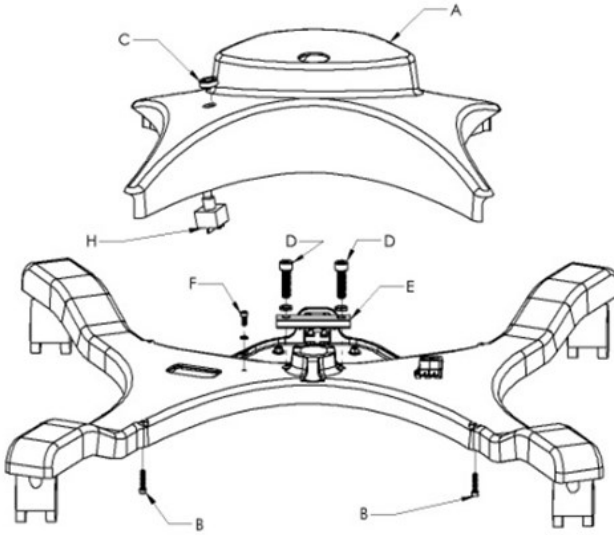

Figure 3: Stand assembly.
3. Remove the electrical switch nut (C) by unthreading it from the push button switch (H). Place it aside. Refer to Figure 3.
4. Carefully pull the bottom of the plastic cover over the power outlet. Remove the base cover (A). Refer to Figure 3.